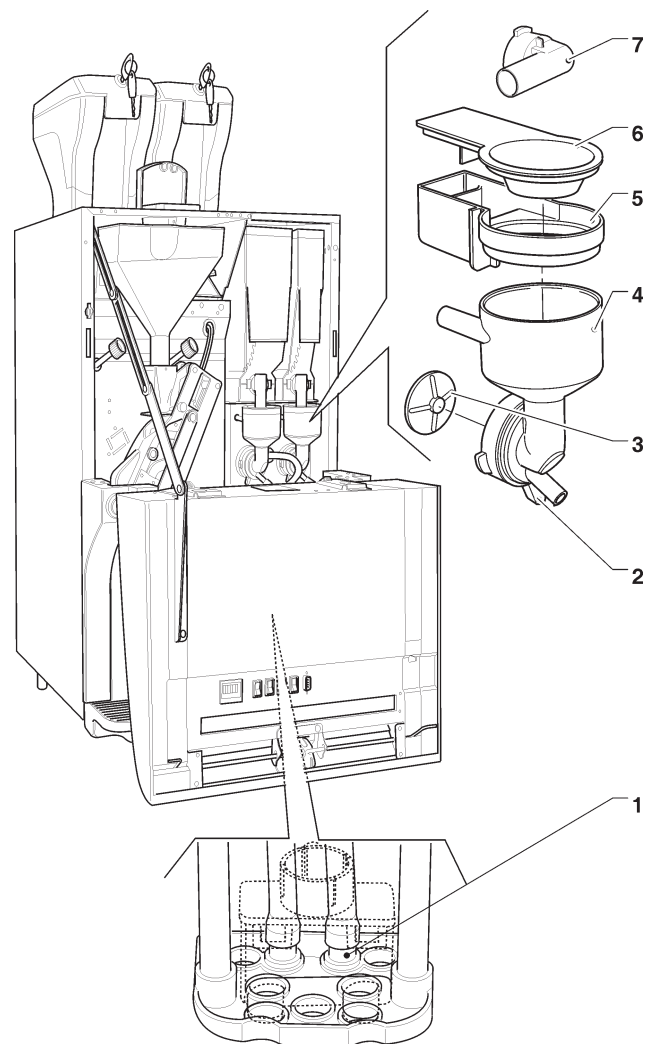

Fig. 29
- remove (see fig. 29) the powder funnels, the water funnels, the collection boxes, the powder deposit drawers and the whipper motor wheels from the mixers;